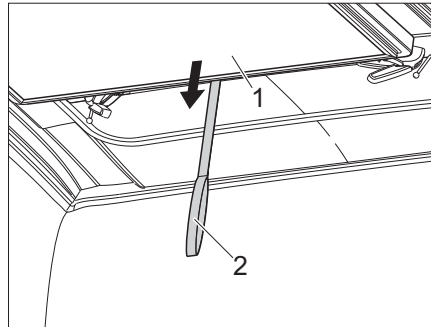

Fig. 13 Pulling the sleeping area downwards
- Pull the sleeping area (Fig. 13,1) downwards with the belt (Fig. 13,2).
- ▷ Before closing the pop-up roof pull the sleeping area (Fig. 13,1) down. **Do not** pull the sleeping area and the pop-up roof down at the same time.